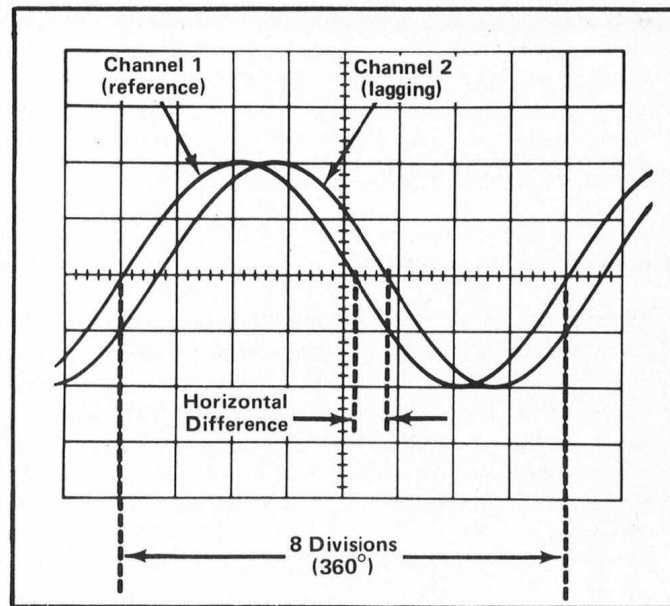
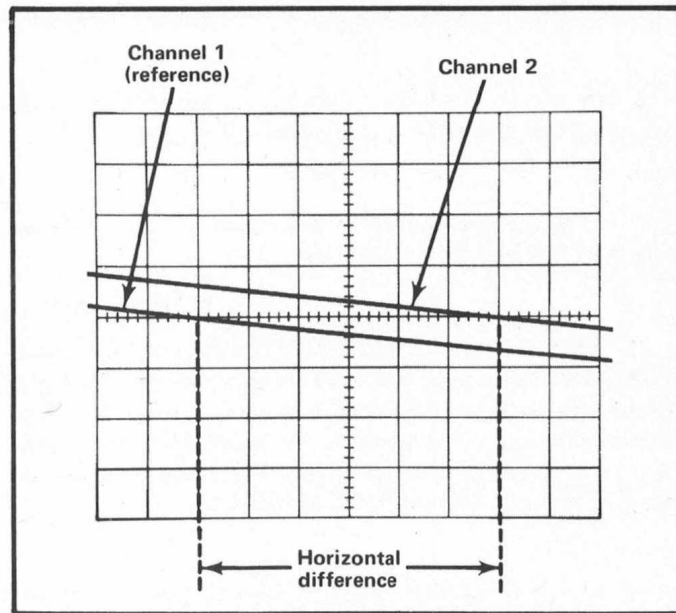

Fig. 9. Measuring phase difference.
Fig. 10. High-resolution phase-difference measurement with increased sweep rate.
10. Turn the A VAR TIME/DIV control until one cycle of the reference signal (Channel 1) occupies exactly eight divisions between the first and ninth graticule lines (see Fig. 9). Each division of the graticule represents 45° of the cycle ($360^\circ \div 8 \text{ divisions} = 45^\circ/\text{division}$). The sweep rate can be stated in terms of degrees as $45^\circ/\text{division}$.
Example. Assume a horizontal difference of 0.6 division with a sweep rate of $45^\circ/\text{division}$ as shown in Fig. 9.
Example. If the sweep rate were increased 10 times with the magnifier, the magnified sweep rate would be $45^\circ \div 10 = 4.5^\circ/\text{division}$. Fig. 10 shows the same signals as used in Fig. 9 but with the X10 MAG switch set to X10. With a horizontal difference of 6 divisions, the phase difference is: